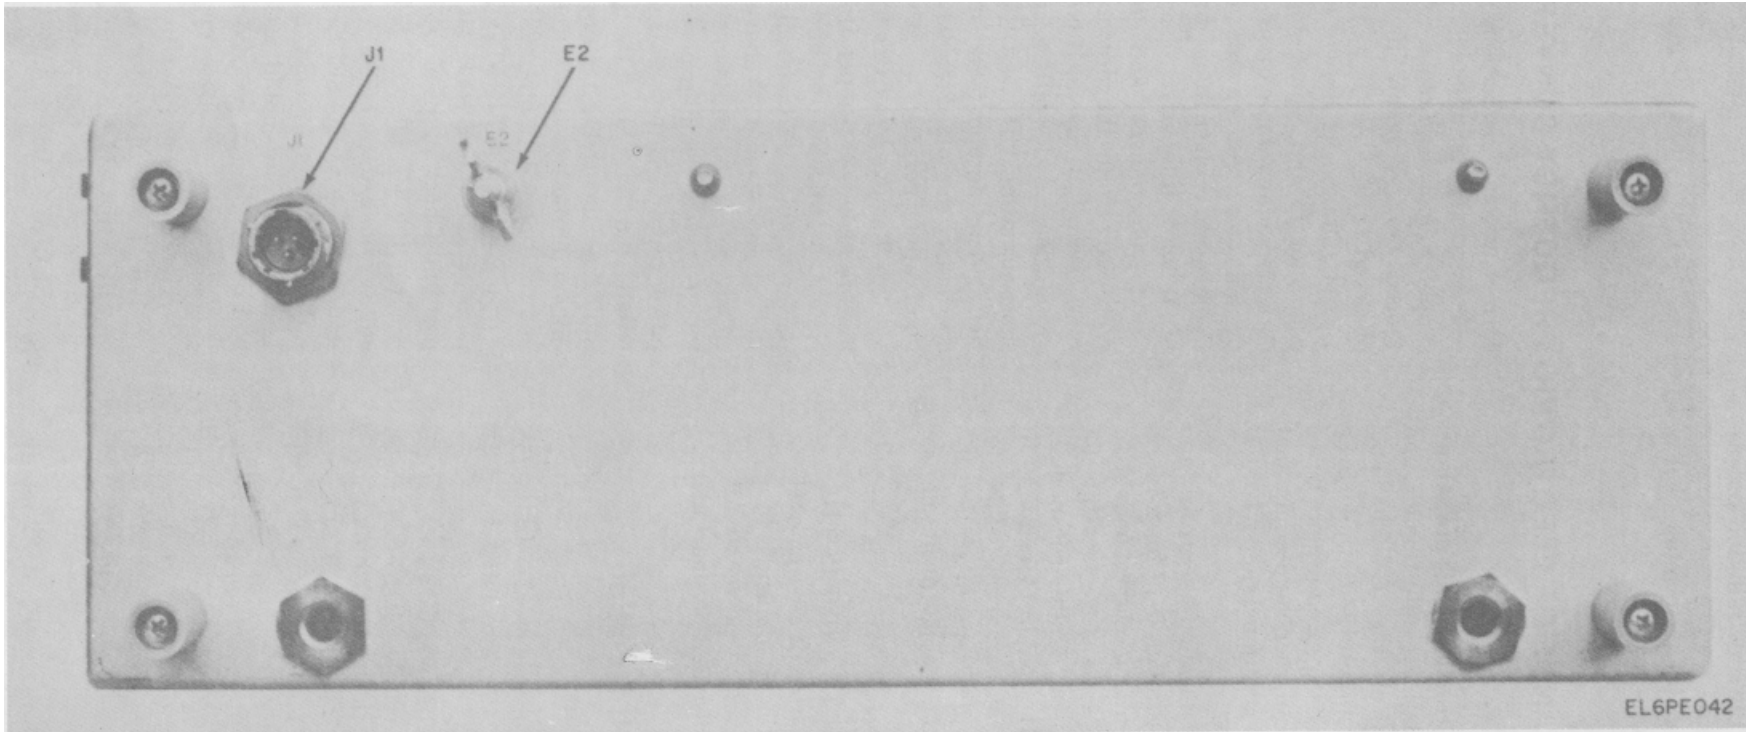

Figure 5-16. Upconverter Rear Panel
- d. On the rear panel, remove the power cable from connector J1 and the ground wire from terminal E2 (fig. 5-16).